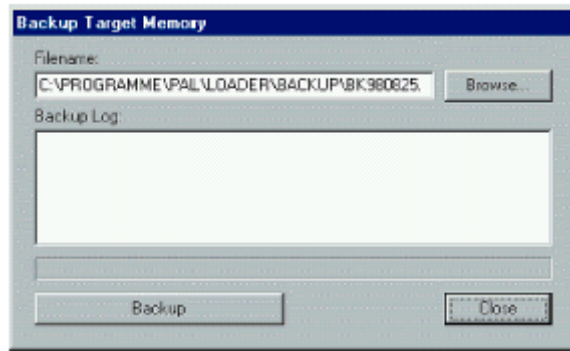

Figure 4-5 Backup Target Memory Dialog Box
6. Click Backup. The Backup Target Memory dialog box shows the path (storage location) and filename to be assigned to the new backup (Figure 4-5). You can enter a customized path and/or filename.